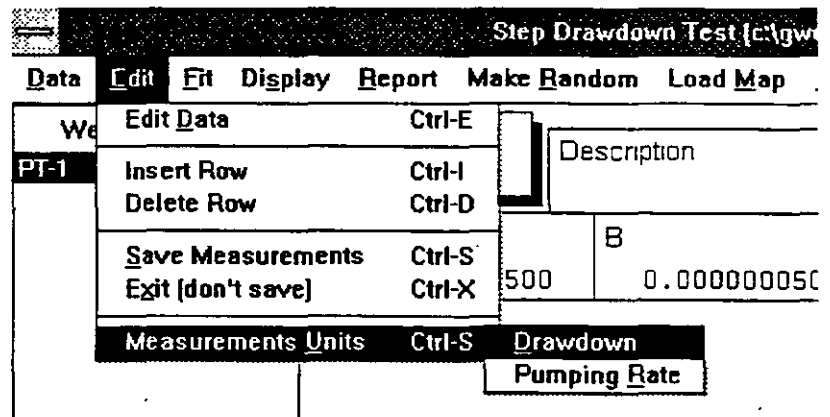

Figure 11-4
Only when you select **Edit Data** and open the data table with two columns, drawdown and pumping rate, will you be able to use other options on the edit data menu. These options are shown in Figure 11-4 and are used for editing the table (inserting or deleting rows) and saving data.
2. Select **Measurements Units**. The display is as shown in Figure 11-4.